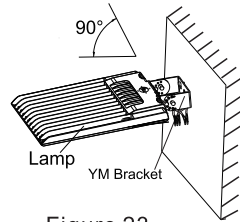

Figure 23
- Step 3: Connect the fixture to the bracket and tighten the screws; connect the wires properly and put them into junction box. (Figure 23)
- Notice: Adjustable angle is 0-90°(Figure 23)